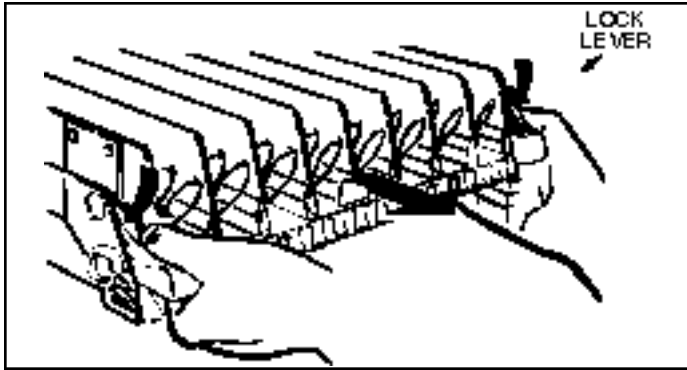

Figure 1. MOVING SHELF TO LOADING POSITION.
3. **LOADING SNACK SHELVES:** Open door to full open position, push down on white plastic lock lever (Figure 1) on right side panel by shelf to unlock shelf, holding lever down. Grasp the shelf, under both front corners (see Figure 1), lift front shelf slightly and pull forward until shelf reaches its stop. The shelves tilt down (do not drop) to make loading easier. **Only one product shelf should be in the loading position at a time.** When returning a shelf, be sure the shelf is in its full home or vend position. Begin loading with the top shelf. Move it to the loading position. The height spacing for items is greatest in this shelf and the tallest bagged items should be placed there. Soft items, such as pastry, pies, etc., should be placed in the lowest snack shelf, making the drop distance as short as possible.